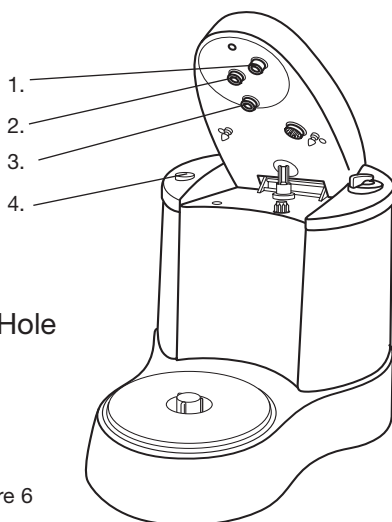

Figure 6
2. Press Head Release Button.  The Mixer Head will pivot upwards automatically. (See Figure 6.)
4. Insert each Attachments' stem disk, one at a time, into the corresponding colored hole on underside of Motor Housing. (See Figure 6.)
1. Before assembly the Food Processor Attachment ensure that the Cord is unplugged and the Speed Control Dial is in (O) OFF position.
3. Press Head Release Button . The Mixer Head will pivot upwards automatically. (See Figure 6)